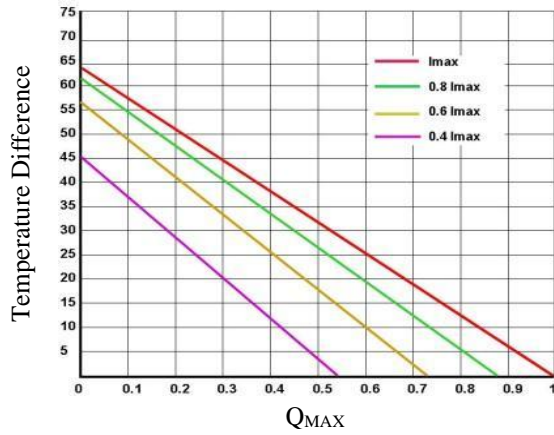

Figure 2. Temperature Difference vs. Q_{MAX}
- Use the charts provided in Figure 2 to Figure 9, to decide which TEC to use, what is the heat needed to be dumped through the heat sink, what is the heat sink temperature, etc.